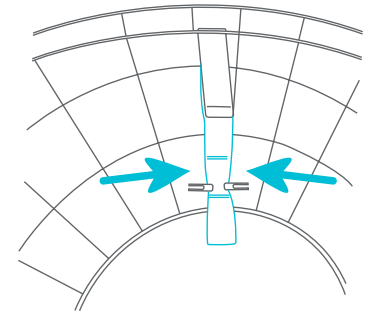
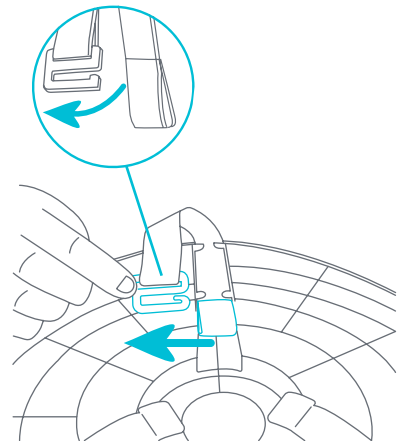

Fig. 3a
Fig. 3b
- 3 • Underneath the tabletop pinch and pull out the 3 small straps (Fig. 3a). Underneath the platform unhook the 3 adjustment plates, pinch and pull out the 3 large straps (Fig. 3b).